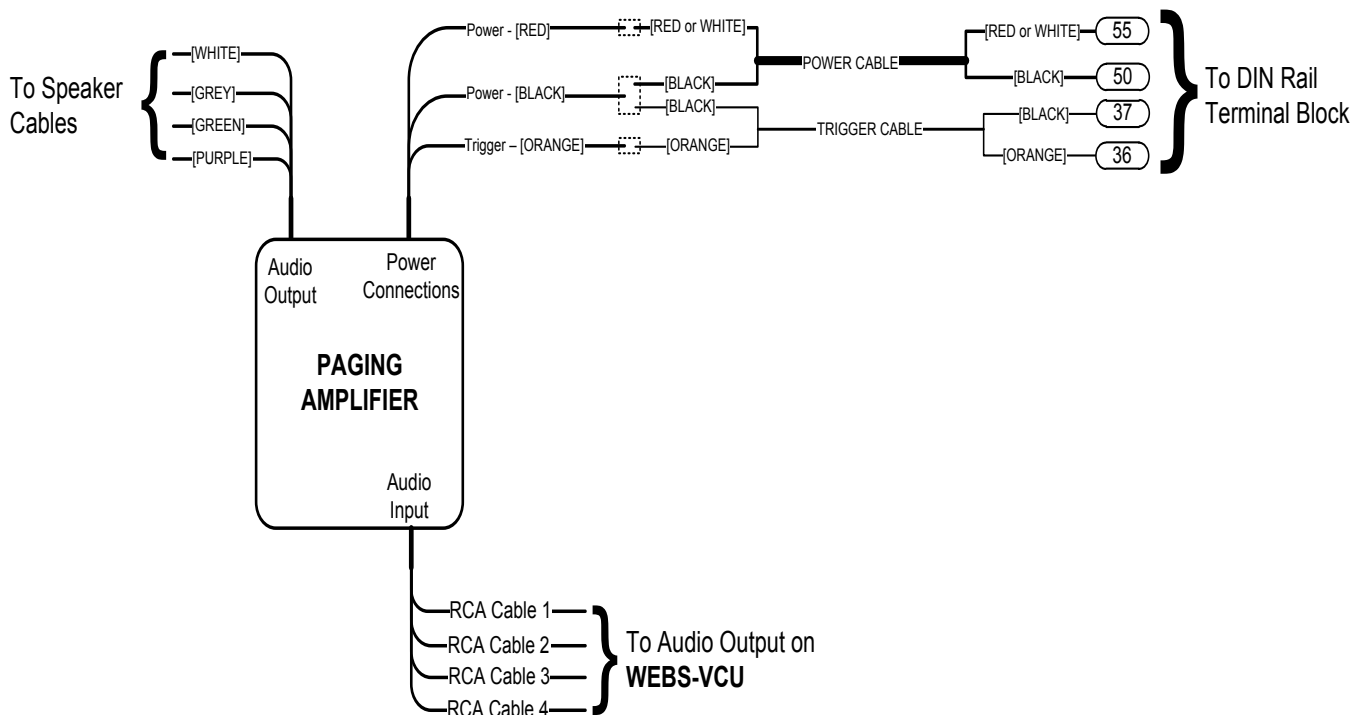

Figure 4. Paging Amplifier, WEBS Loudspeakers, WEBS-VCU and DIN Rail Terminal Block Connectivity Layout
2. Connect the Paging Amplifier to the WEBS Loudspeakers, DIN Rail Terminal Block and the **WEBS-VCU** as shown in **Figure 4**. Connect the speaker audio cables to their corresponding paging amplifier speaker output cables as follows: